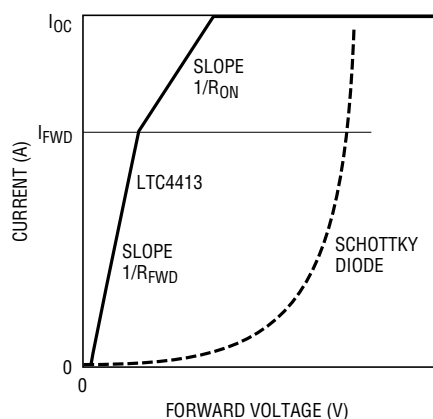

Figure 2
The LTC4413 is described with the aid of the Block Diagram (Figure 1). Operation begins when the power source at  $V_{INA}$  or  $V_{INB}$  rises above the undervoltage lockout (UVLO) voltage of 2.4V and either of the ENBA or ENBB control pins is low. If only the voltage at the  $V_{INA}$  pin is present, the power source to the LTC4413 ( $V_{DD}$ ) will be supplied from the  $V_{INA}$  pin. The amplifier (A) will pull a current proportional to the difference between  $V_{INA}$  and  $V_{OUTA}$  from the gate ( $V_{GATEA}$ ) of the internal PFET (PA), driving this gate voltage below  $V_{INA}$ . This will turn on PA. As  $V_{OUTA}$  is pulled up to a forward voltage drop ( $V_{FWD}$ ) of 20mV below  $V_{INA}$ , the LTC4413 will regulate  $V_{GATEA}$  to maintain the small forward voltage drop. The system is now in forward regulation and the load at  $V_{OUTA}$  will be powered from the supply at  $V_{INA}$ . As the load current varies,  $V_{GATEA}$  will be controlled to maintain  $V_{FWD}$  until the load current exceeds the transistor's (PA) ability to deliver the current as  $V_{GATEA}$  approaches GND. At this point the PFET will behave as a fixed resistor with resistance  $R_{ON}$ , whereby the forward voltage will increase slightly with increased load current. As the magnitude of  $I_{OUT}$  increases further (such that  $I_{LOAD} > I_{OC}$ ), the LTC4413 will fix the load current to the constant value  $I_{OC}$  to protect the device. The characteristics for parameters  $R_{FWD}$ ,  $R_{ON}$ ,  $V_{FWD}$  and  $I_{OC}$  are specified with the aid of Figure 2, illustrating the LTC4413 forward voltage drop versus that of a Schottky diode.